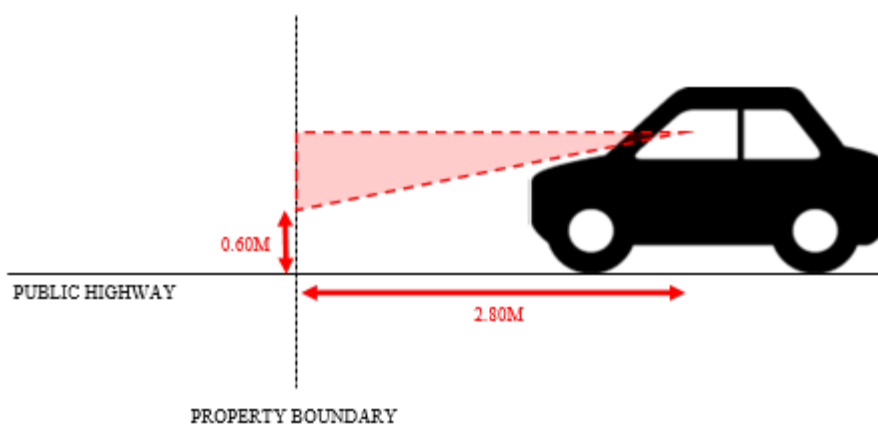

Figure 4: Required Vertical Pedestrian Visibility Splays.
- Figure 4: Required vertical pedestrian visibility splays